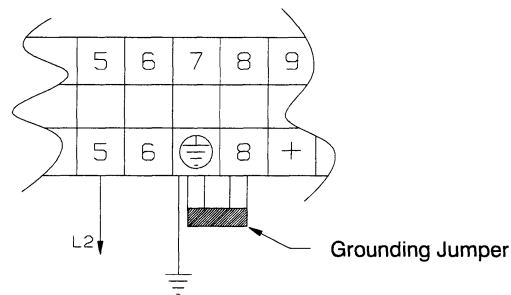

Figure 17. Grounding Jumper
6. Locate the grounding jumper between terminals 7 and 8 as shown in Figure 17.